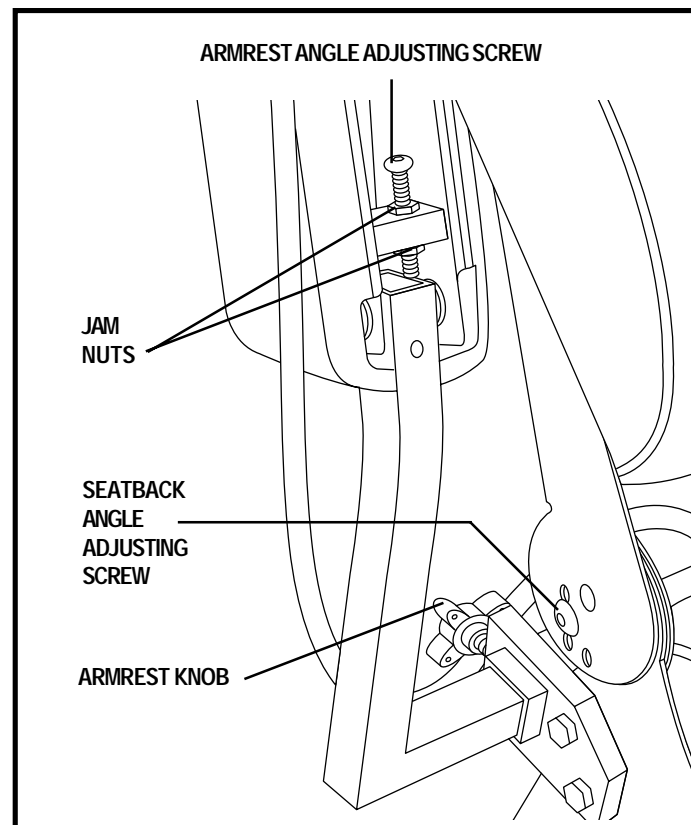

Figure 15. Seatback and Armrest Adjustment
1. Remove the adjusting screws from each seat hinge. See figure 15.
1. Locate the two armrest knobs on each side of the armrest receiver bracket. See figure 15.
1. Lift the armrest straight up so that it is perpendicular to the floor. See figure 15.